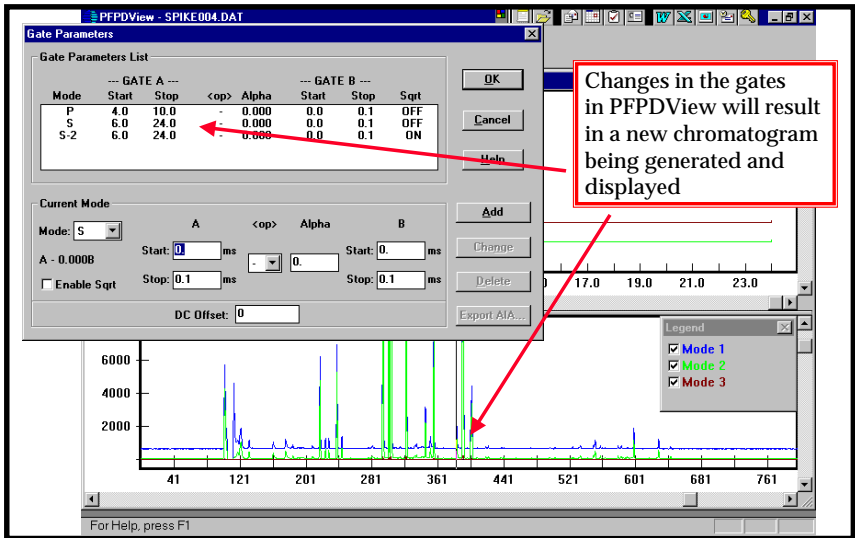

Figure 4.2. Post-Run Reprocessing of Gate and Timed Events Parameters
2. Make any necessary changes. Note that all the fields cannot be modified. For information on the Gate Parameters Screen, Timed Events Screen, and Board Channel Parameters Screen, see the *Model 5380 PFPD Operator's Manual*. (Figure 4.2)